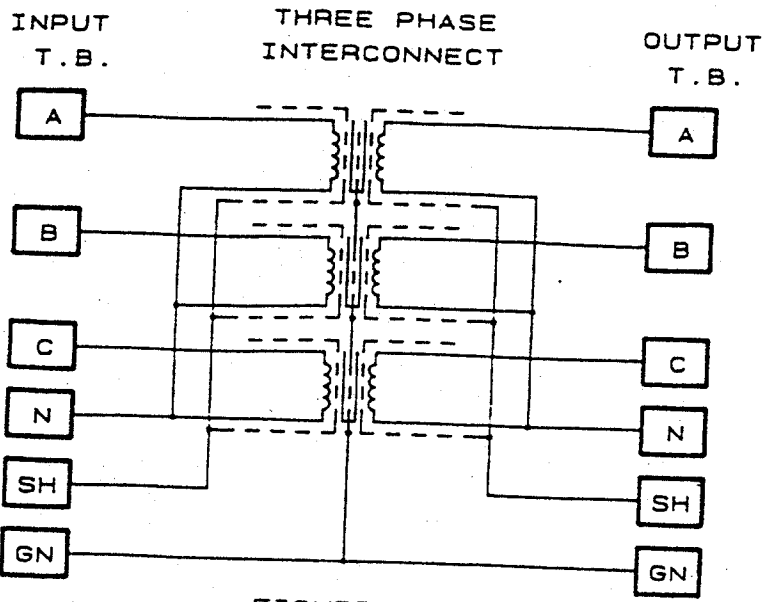

FIGURE 6
Figure 6 shows a WYE primary-WYE secondary type three phase HIT. With this type unit the neutral (N) and the shield (SH) should be jumpered together (primary and secondary) to obtain the most effective means for eliminating common mode noise. The ground terminal (GN) should be tied to earth ground to establish a single point ground for the equipment to be isolated.